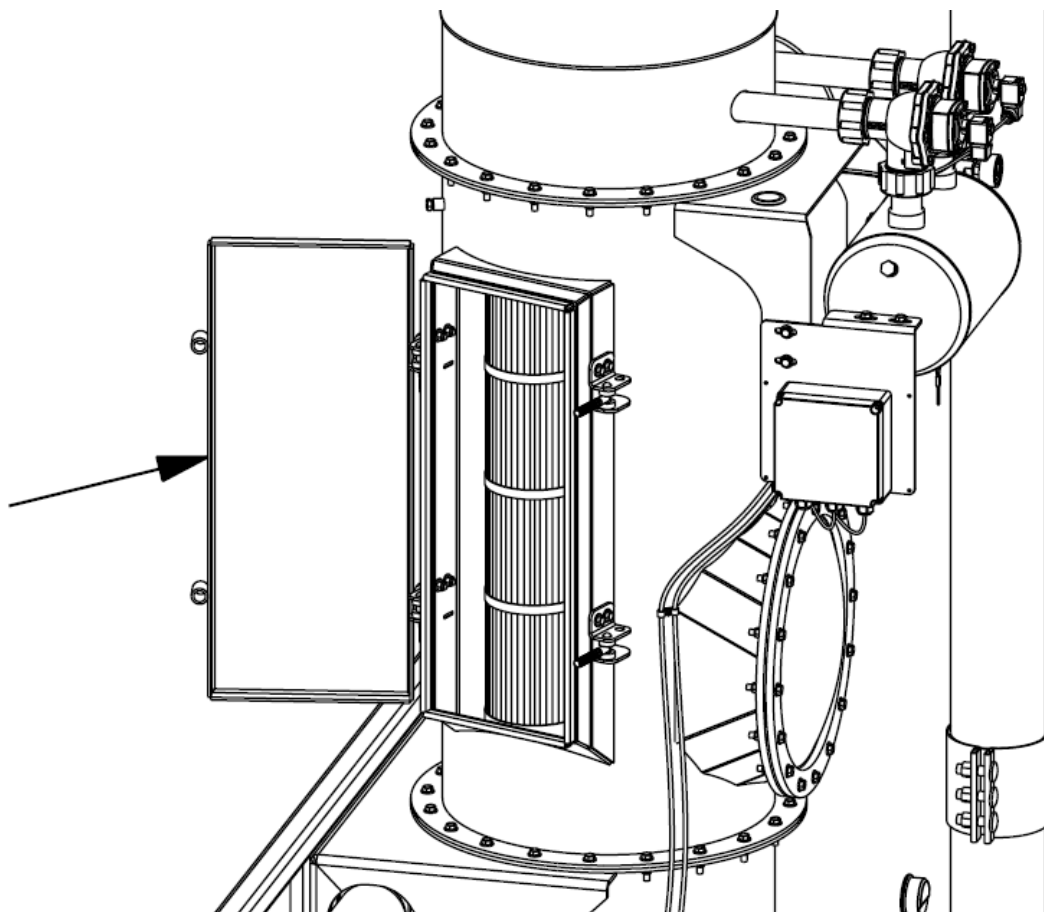

Figure 5-41: Opened filter access door
5. Open the filter access door to prevent the explosion vent from rupturing in the event of an unintentional or unexpected start-up or reverse operation of the system, reference **Figure 5-41**.